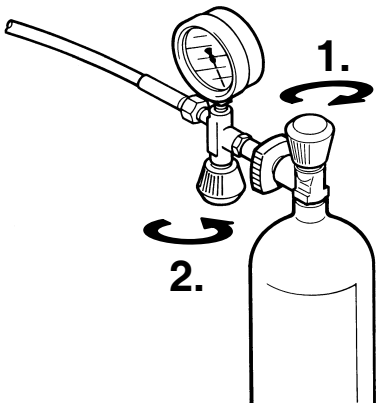

Fig. 26 Removing air bottle
- Upon reaching final bottle pressure **close bottle valve first** (1, Fig. 26), **then filling valve** by returning handle to closed position (2).